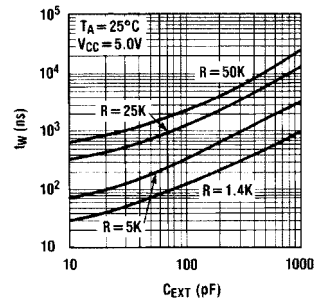

FIGURE 1.
- The pulse width is essentially determined by external timing components R_X and C_X. For C_X < 1000 pF see Figure 1 design curves on t_W as function of timing components value. For C_X > 1000 pF the output is defined as: